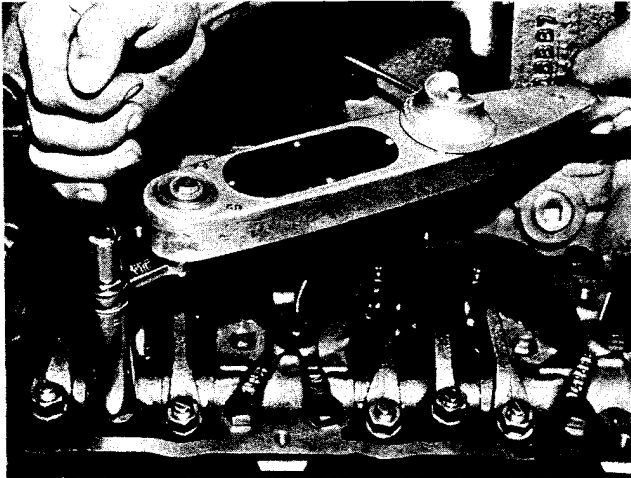

Fig. 2-50, (V414201). Torquing injector adjusting screw locknut with ST-669
3. Hold injector adjusting screw and tighten injector locknuts to values indicated in Table 2-13. Where ST-669 is used, nut torque is reduced to compensate for additional torque arm length. Fig. 2-50.